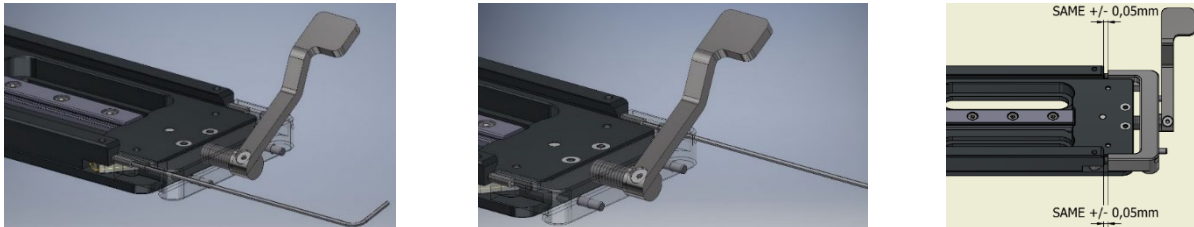

Figure 51. Adjusting locking screws.
3. Use 0.9 mm hex key to tighten the locking mechanism by turning adjustment screws clockwise with same amount on both sides until the slide starts to brake when lever is approximately at 45 deg position (Figure 51).
4. Use calipers to measure the gap between slide rails and locking part to confirm the gaps on both sides are equal within $\pm 0,05\text{mm}$ (Figure 51, right).